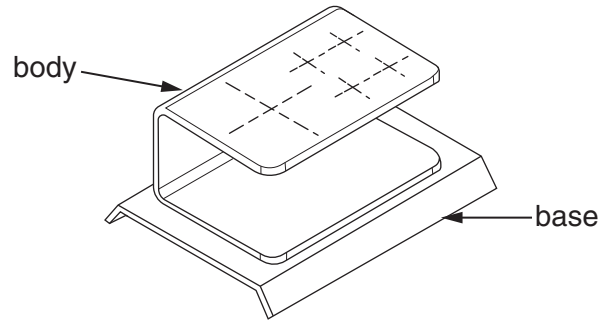

Fig. 12
- (f) Fig. 12 shows an alternative design for a toothbrush holder made from 3 mm thick mild steel sheet.